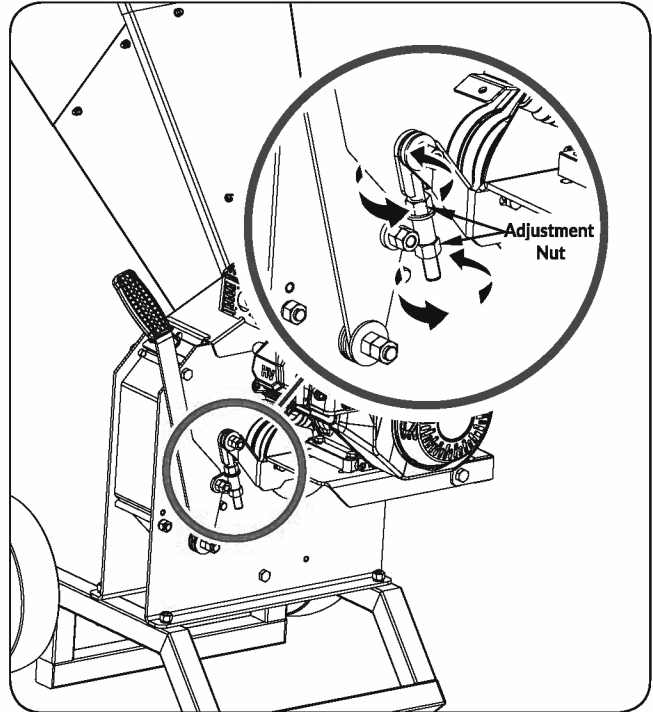

Figure 24
- Loosen the two M12 adjustment nuts by turning them counter-clockwise and moving them downward to reduce any slack in the V-belts. (See **Figure 24**)